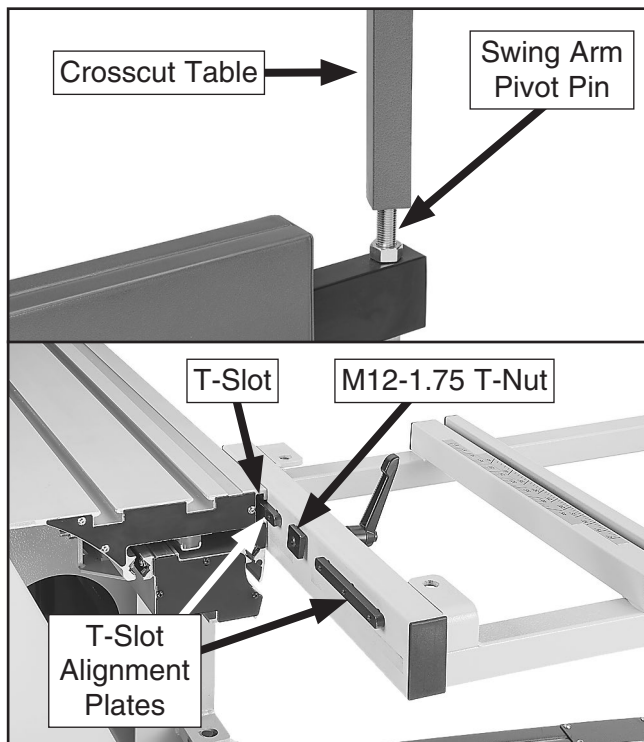

Figure 42. Attaching crosscut table to machine frame.
37. With assistance from other people, place crosscut table on swing arm pivot pin and slide T-slot alignment plates and T-nut into sliding table T-slot (see **Figure 42**).